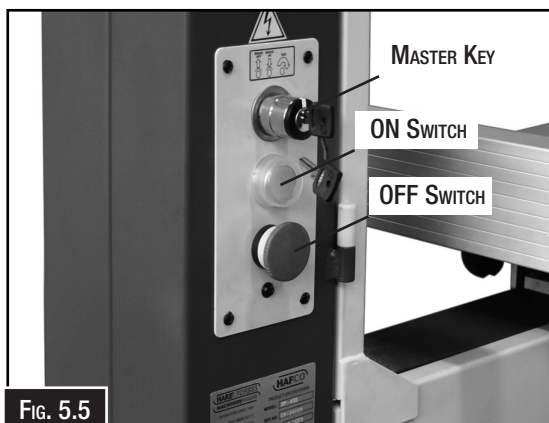

Fig. 5.5
**ON Switch:** Starts the blade motor. (Fig. 5.5) (415V Only)
**OFF and Emergency Stop Switch:** Stops the blade motor. (Fig. 5.5) (415V Only)
**Master Power Key Switch:** Turns incoming power ON and OFF. Requires key. (Fig. 5.5) (415V Only)